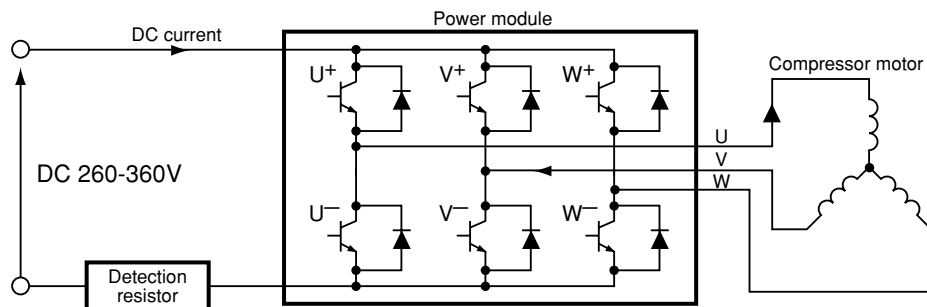

Fig. 8-9
(1) Turns on the power module's U⁺ and V⁻ transistors so the current flows to the motor windings as shown in Fig8-9.